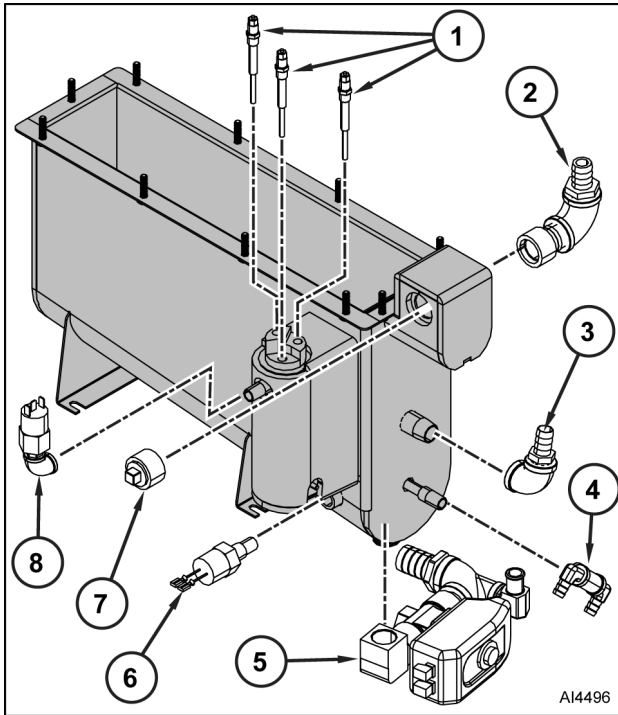

Fig. 30
- Water level probes (1, Fig. 30).
- Steam outlet fitting (2).
- Delime port fitting (3).
- Supply port fitting (4).
- Motorized drain valve assembly (5).
- Hold thermostat (6).
- Nipple and cap (7).
- High pressure limit switch (8).